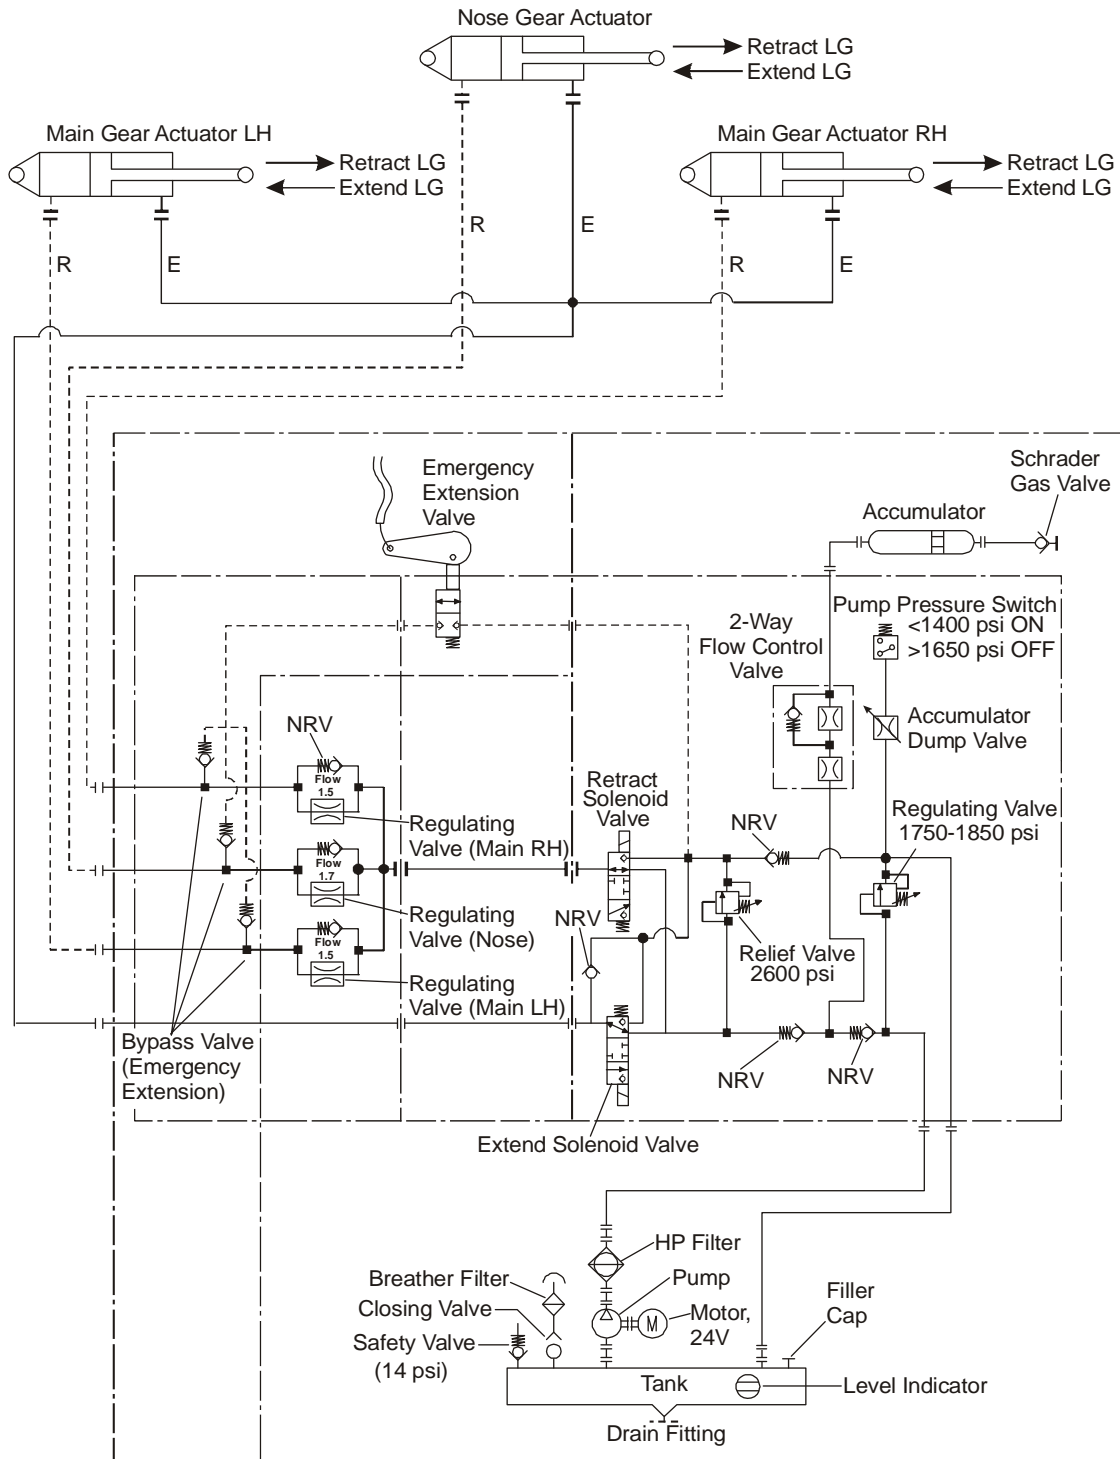

Figure 4: Hydraulic Schematic Diagram - 'Differential Pressure' Retraction Operation
Figures 4 thru 7 show the hydraulic schematic diagrams for the operation of the landing gear.
- The electrical circuit to the hydraulic pump is made and the pump will operate if the system pressure is less than 96.5 bar (1400 PSI). The retract solenoid valve is energized through the LH main gear 'weight-on-wheels' micro switch and allows fluid to flow from the pump to the retract side of the actuator. The extend solenoid valve is de-energized and allows fluid to flow from the pump to the extend side of the actuator (Figure 4).